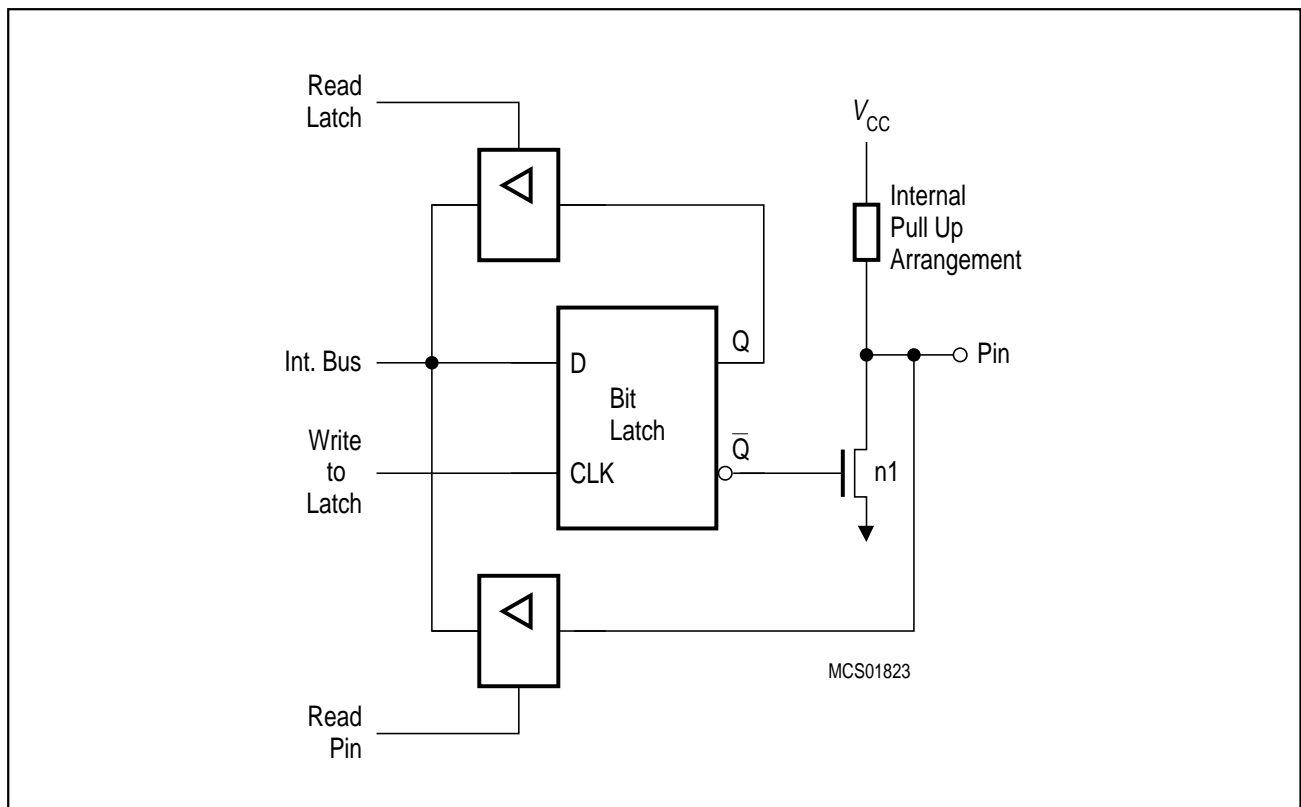
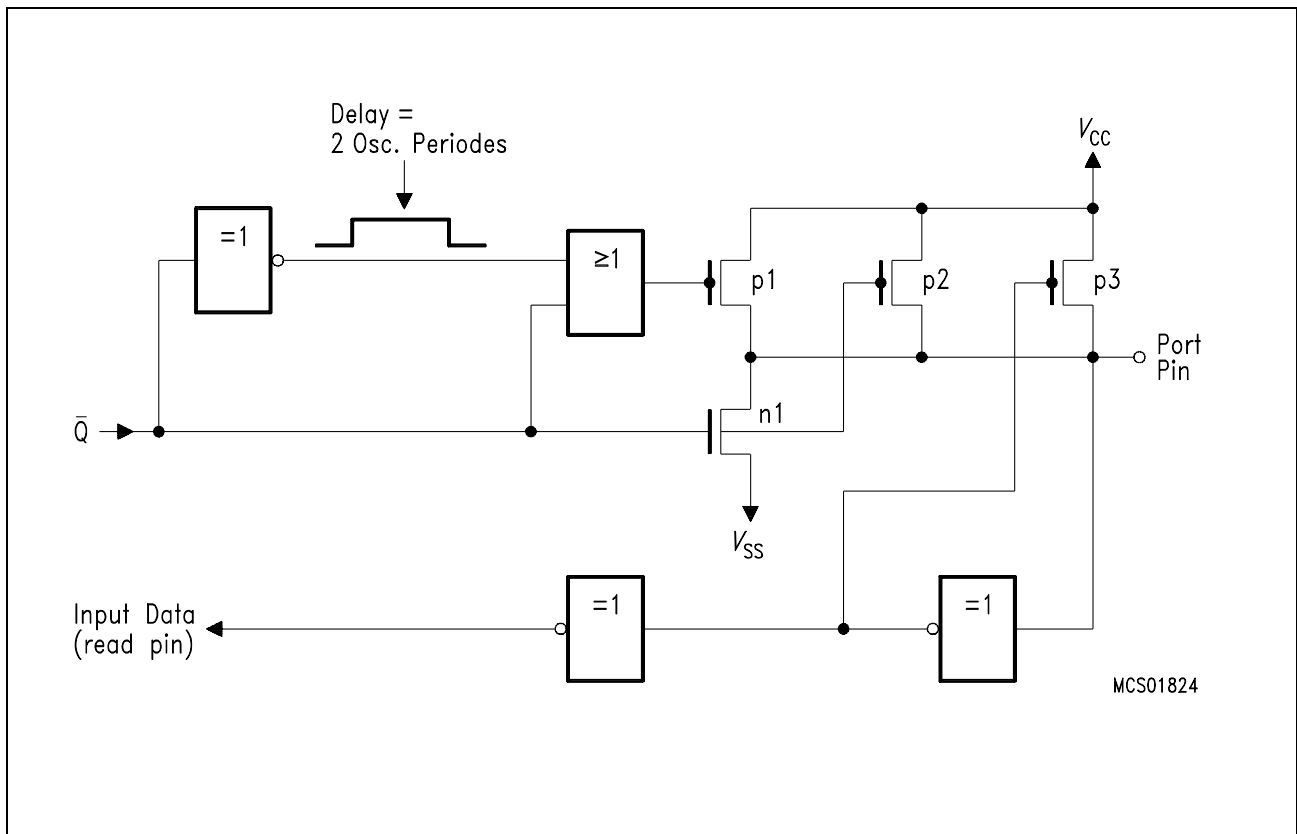

Figure 7-2
Figure 7-3
Port 1 through 6 output drivers have internal pullup FET's (see figure 7-2). Each I/O line can be used independently as an input or output. To be used as an input, the port bit must contain a one (1) (that means for figure 7-2: $\bar{Q} = 0$), which turns off the output driver FET n1. Then, for ports 1 through 6, the pin is pulled high by the internal pullups, but can be pulled low by an external source. When externally pulled low the port pins source current (I_{IL} or I_{TL}). For this reason these ports are sometimes called "quasi-bidirectional".
In fact, the pullups mentioned before and included in figure 7-2 are pullup arrangements as shown in figure 7-3. One n-channel pulldown FET and three pullup FETs are used: